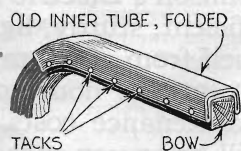

Fig. 6. Inner tube used to prevent bow cutting through top
**I**N THE higher-priced cars, great care is taken with the top construction to pad the bows so that they will not wear through the top material, but this point is often neglected on low-priced cars. You can increase the life of the top on your car by padding the bows with old inner tubes folded and tacked in place, as shown in Fig. 6. Put in the tacks about an inch apart and be very careful to get the section of inner tube perfectly smooth, as even one wrinkle will cut through the top material in a short time.